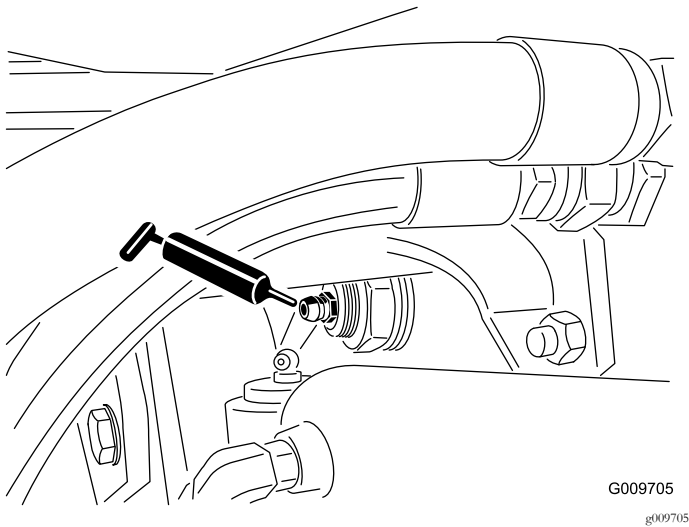

Figure 34
- Rear-axle-pivot bushings (2) as shown in Figure 34